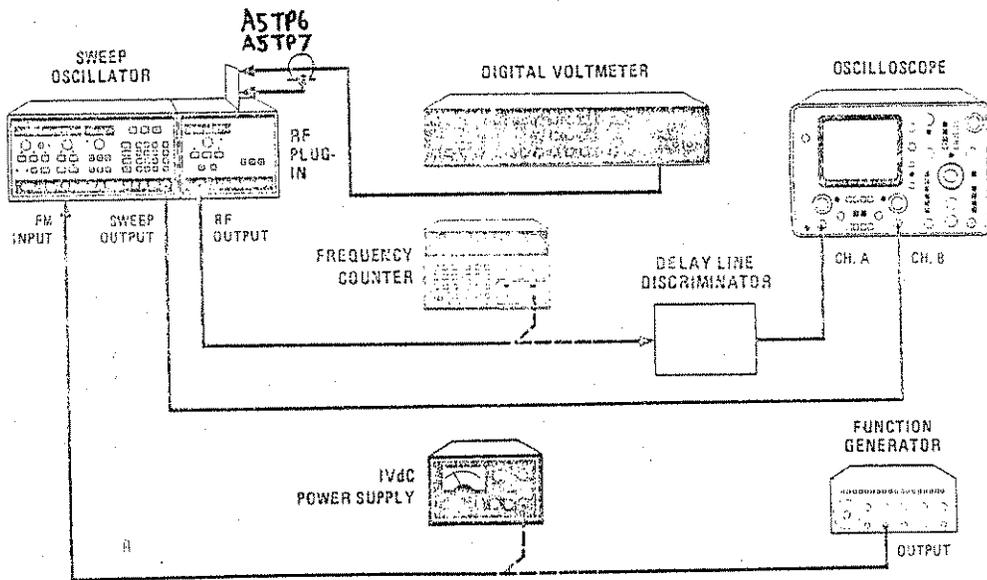

Figure 5-40. Test Setup for FM Driver Adjustments
1. Connect the equipment as shown in Figure 5-40. Connect the Frequency Counter to the 83592A RF Output connector. Do not connect the Power Supply or Function Generator to the 8350A rear panel FM INPUT connector yet. Allow the equipment to warm up for 1 hour.